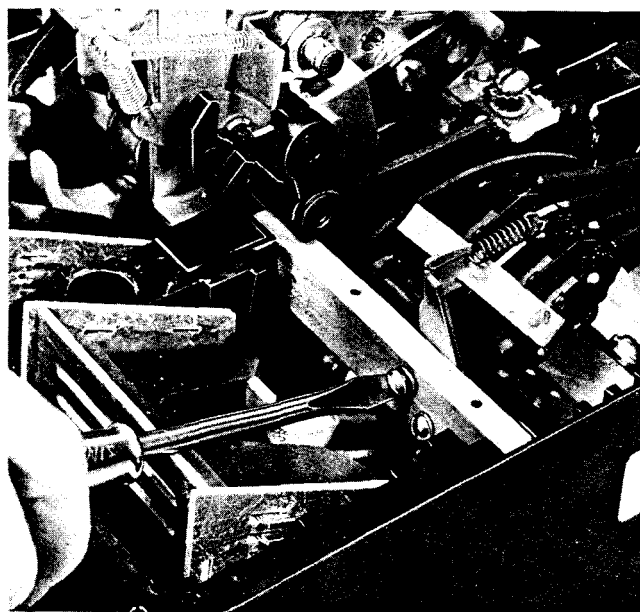

FIG. 25
3. Mount cut-off switch by first depressing the switch actuator. Align tapped holes in switch bracket with holes in arm stop (left pole) and secure with No. 8 x 9/16 screws and lock washer. (Tighten to 23 inch pounds Fig. 25).